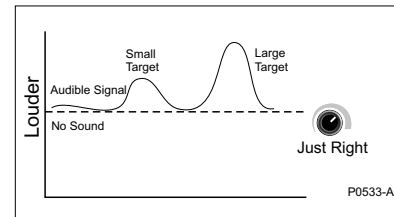

Figure 4.7 Threshold control just right
**HINT** A soft audible headphone signal which is comfortable to listen to for extended periods is recommended (Figure 4.7).